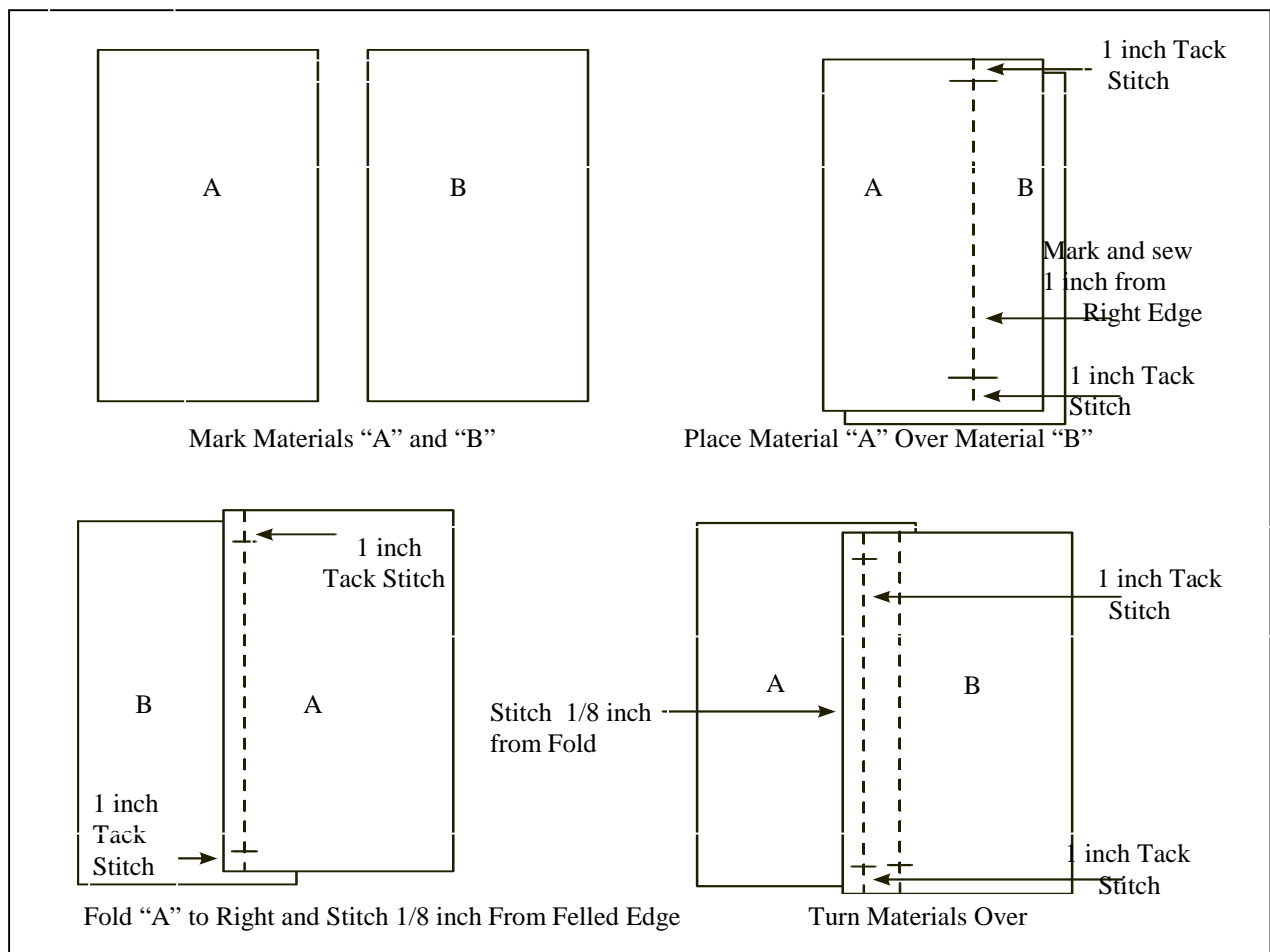

Figure 8-7. Single-felled seam
d. Single-Felled Seam. The single-felled seam (Figure 8-7) is similar to the welt seam used on clothing, but the single-felled seam is sewn with two rows of stitches. This seam is used to join two pieces of canvas when the outside has to be finished and the inside does not. It is also used to sew on patches. To make a single-felled seam--
- (1) Sew piece A and piece B together with a simple seam but stitch the seam 1 inch from the right edge.
- (2) Lift piece A up and over to the right so that both pieces are faceup and both seam allowances are to the right underneath.
- (3) Tack the beginning of the seam, and sew a row of stitches 1/8 inch to the right of the fold through all three layers (piece A and seam allowances). Tack the end of the seam.
- (4) Turn the pieces facedown.
- (5) Tack the beginning of the seam, and sew a row of stitches 1/8 inch to the right of the raw edges through all three layers. Tack the end of the seam.